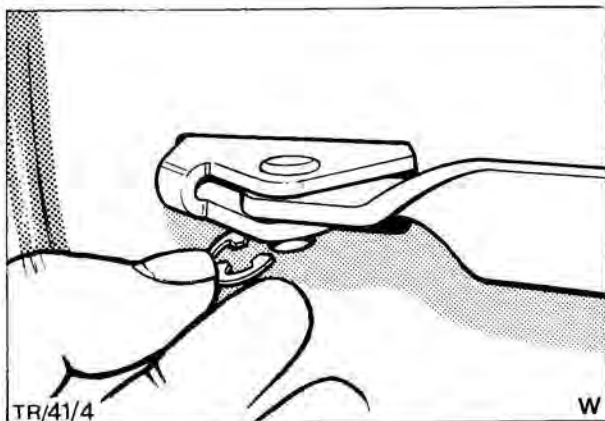

Fig. 15. Removing circlip from check strap clevis pin
1. Remove circlip Fig. 15, and push out check strap clevis pin.